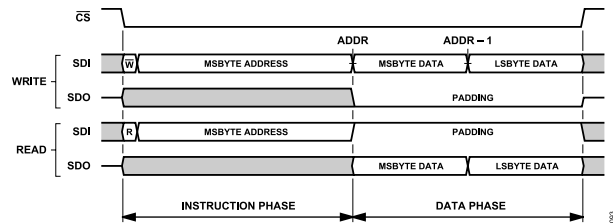
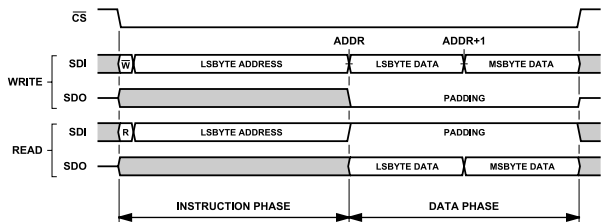

Figure 93. Single Instruction Format, ADDR_ASCENSION = 0 (Descend), STRICT_REGISTER_ACCESS = 1 (Enabled)
Figure 94. Single Instruction Format, ADDR_ASCENSION = 1 (Increment), STRICT_REGISTER_ACCESS = 1 (Enabled)
As shown in Figure 93, the address counter, by default, automatically decrements (ADDR_ASCENSION = 0) such that the most significant byte of the multibyte register is accessed first, followed
As an extension of this concept, when STRICT_REGISTER_ACCESS = 1, any SPI frame that accesses a multibyte register as the first entity in the data transfer must correctly set the starting address in the instruction word to correspond to the ADDR_ASCENSION selection. In the case that the address counter automatically decrements (ADDR_ASCENSION = 0), the starting address is assigned to the register address for the most significant byte of that multibyte register, and conversely, if configured to increment automatically, the starting address must be set to the register address for the least significant byte. As a result of the change to ADDR_ASCENSION from automatic address decrement (0) to automatic increment (1), Figure 90 and Figure 91 change as shown in Figure 93 and Figure 94 to accommodate the changes in data phase byte order and instruction phase multibyte register start address.